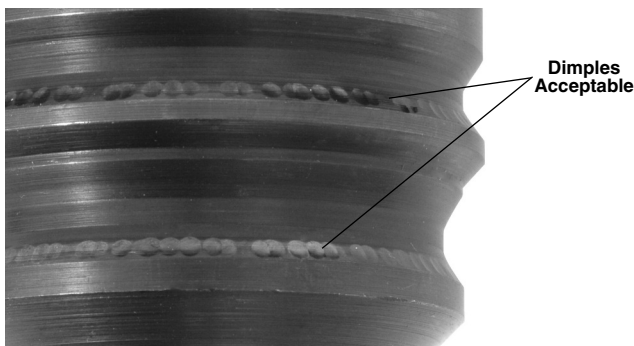

Figure 8 – Dimples in QCS Coupling Grooves
- When inspecting the mating QCS coupling on interchangeable heads, dimples in the grooves of the QCS coupling are normal with use and are not considered damage (*Figure 8*).